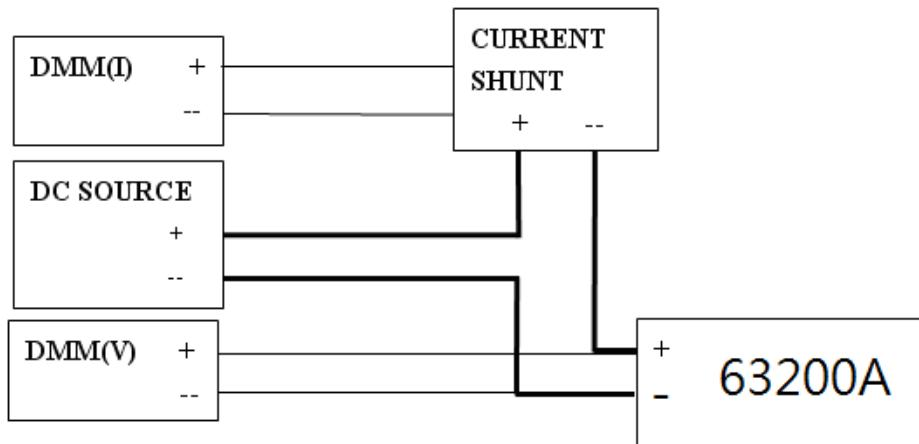

Figure 6-1
Connect the Load, DC Source, DMM and Current Shunt as shown in Figure 6-1. Use DMM (I) to measure the voltage that passes through the shunt resistor measurement port, and get the Load current.
- A. Connect the Load, DC Source, DMM and Current Shunt as shown in Figure 6-1. Use DMM (I) to measure the voltage that passes through the shunt resistor measurement port, and get the load current.
- D. Turn on the DC source and set output voltage to 5V. Set current limit of DC source larger than the set current in Table 6-2. Press to enable the load and wait for 30 seconds. Then record the shunt current and the front panel displayed readings. The current of load can be recorded from current shunt = DMM (I) voltage/current shunt resistor.
- Connect the Load, DC source, DMM and Current Shunt as shown Figure 6-1. Use DMM (V) to measure the voltage passing through the Load input terminal.
- Wait for 30 seconds after the DC Source outputted and to record the voltage measured by DMM (V) and the Load.